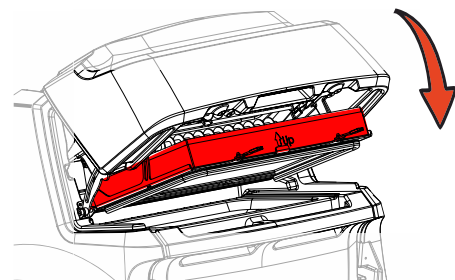

Fig. 42
- Slowly release the filter holder inc. dust filter until this is held. (Fig. 42)